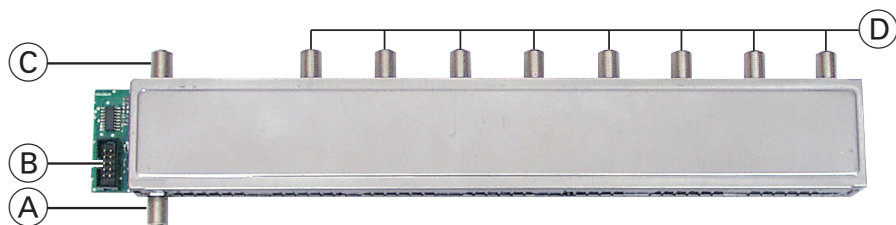
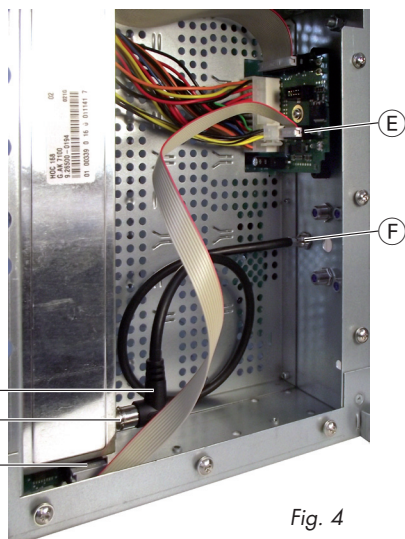

Fig. 1
Fig. 4
- Connect the ribbon cable ③ (fig. 4, part of the packing contents of the head-end station) to the connector block ② (fig. 1) of the RF output collector HOC 168.
- Connect the other end of the ribbon cable to the backplane ⑤.
- Connect the output cable ① (fig. 4, part of the packing contents of the head-end station) to the output ④ of the RF output collector.
- Insert the other end of the output cable in one of the openings (knock-outs) in the rear panel of the head-end station ⑥ and tighten it.
- Mount the RF output collector HOC 168 to the position in the head-end station according to fig. 4.